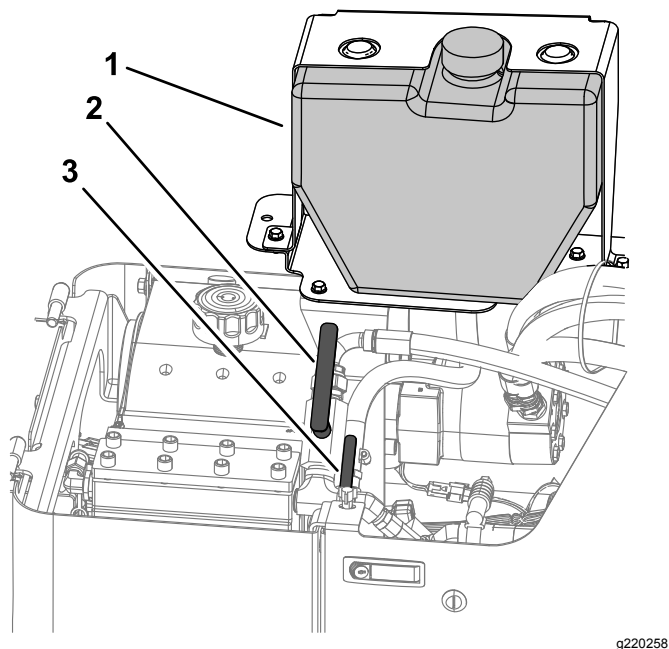

Figure 120
- A. Open the antifreeze valve on the front side of the drilling-fluid pump as shown in Figure 120.
- C. Add antifreeze to the tank as needed (Figure 120).
5. Install the cap onto the antifreeze tank (Figure 120).
6. Close the antifreeze valve (Figure 120).
- D. Remove the cap from the antifreeze tank for the drilling-fluid pump (Figure 120).
- E. Ensure that the tank is full of antifreeze (Figure 120).